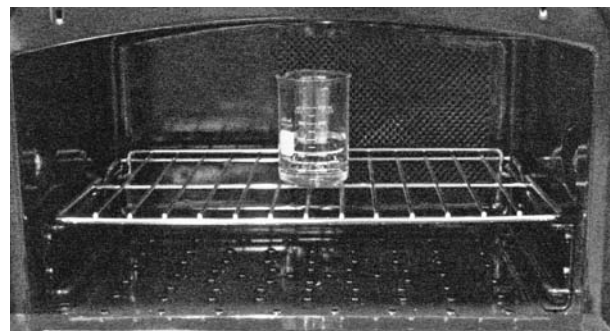

Figure 5.3: Water Load Placement
2. Place a water load into the cook cavity (Figure 5.3). Water load must conform to the following specifications: